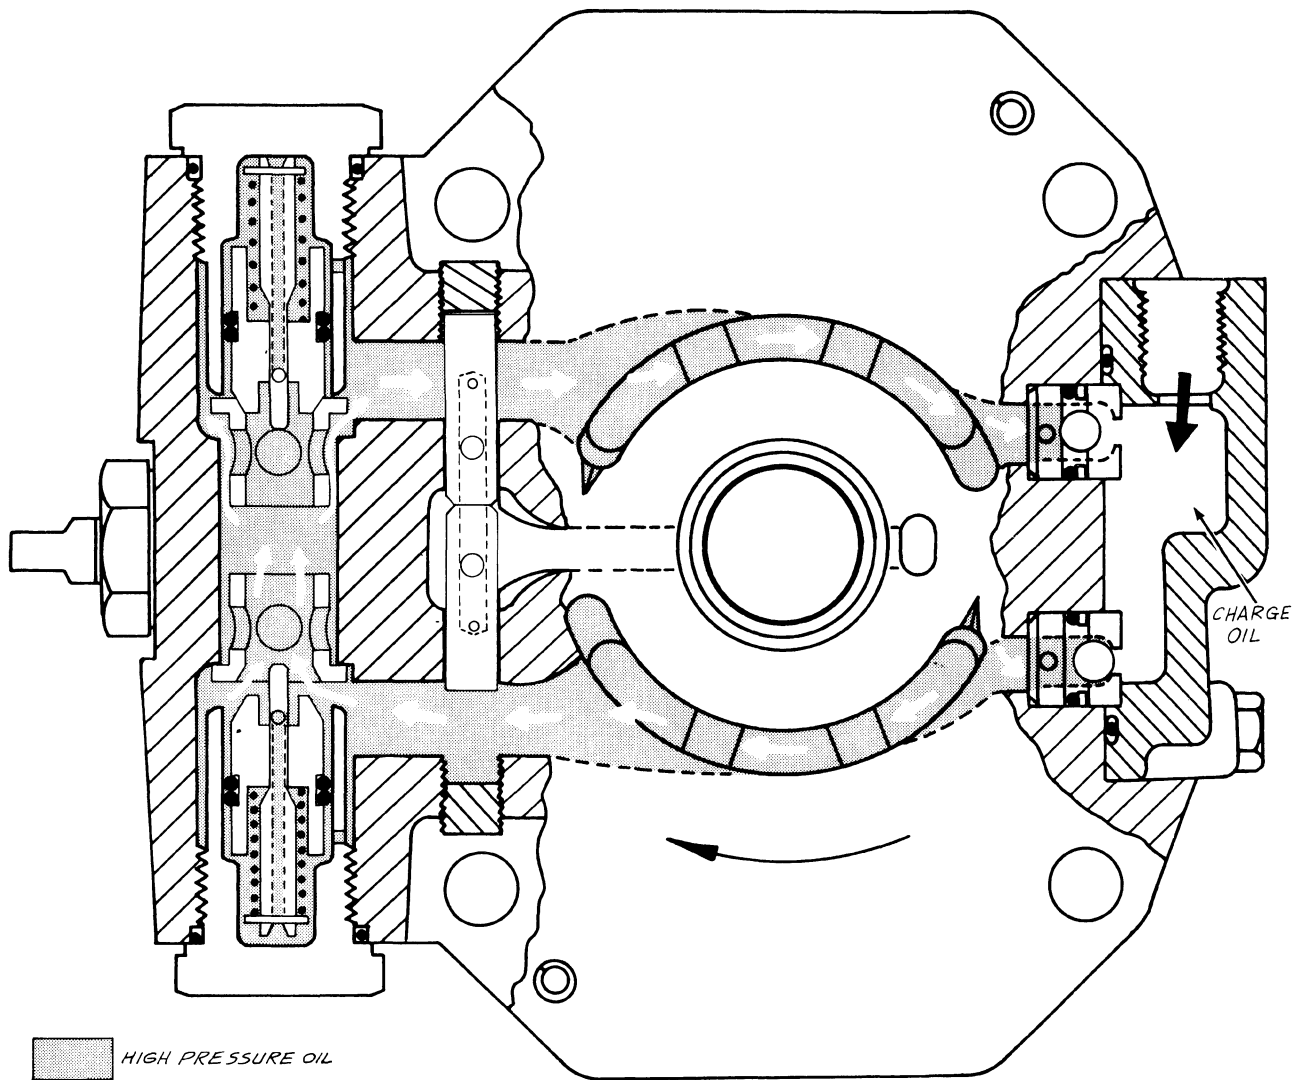

FIGURE 14
- (7) Charge oil can still enter the closed loop to keep it filled and cause cooling, Figure 14. Bypassing the relief valve for long periods can overheat and damage the transmissions.